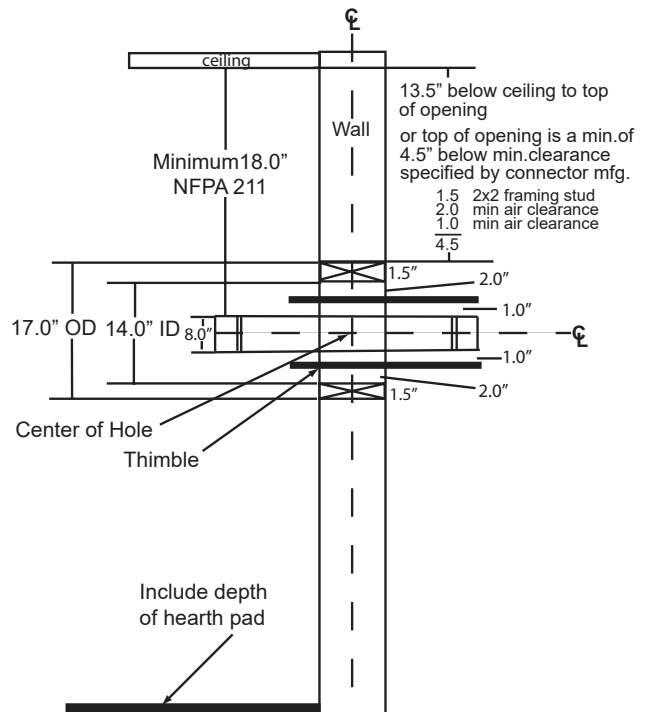

Figure 14.2
- Top of wall opening is a minimum of 13-1/2 inches (343mm) from ceiling or 4-1/2 inches (114mm) below minimum clearance specified by chimney connector manufacturer. NFPA 211 minimum vertical clearance of 18 inches (457mm) from chimney connector and ceiling or minimum recommended by chimney connector manufacturer (**Figure 14.2**).
1. Open inside wall at proper height for the chimney connector to enter the masonry chimney (**Figure 14.2**).
3. Construct a 17 inch x 17 inch (432mm x 432mm) outside dimension frame from 2 x 2 framing lumber to fit into wall opening. Inside opening of frame should be no less than 14 inch x 14 inch (356mm x 356mm) (**Figure 14.2**).